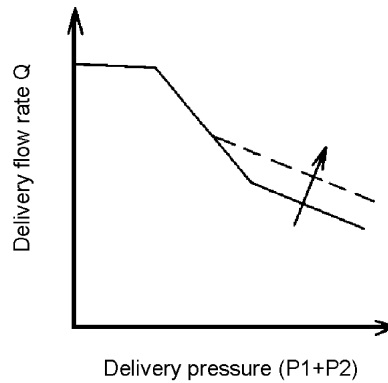

Fig.1-19 Adjusting the input horsepower (2)
Adjust it by loosening nut (801) and by adjust screw (925) (or loosening it). Tightening the adjust screw increases the flow and then the input horsepower, as indicated in Fig.1-19. And the input torque raises.